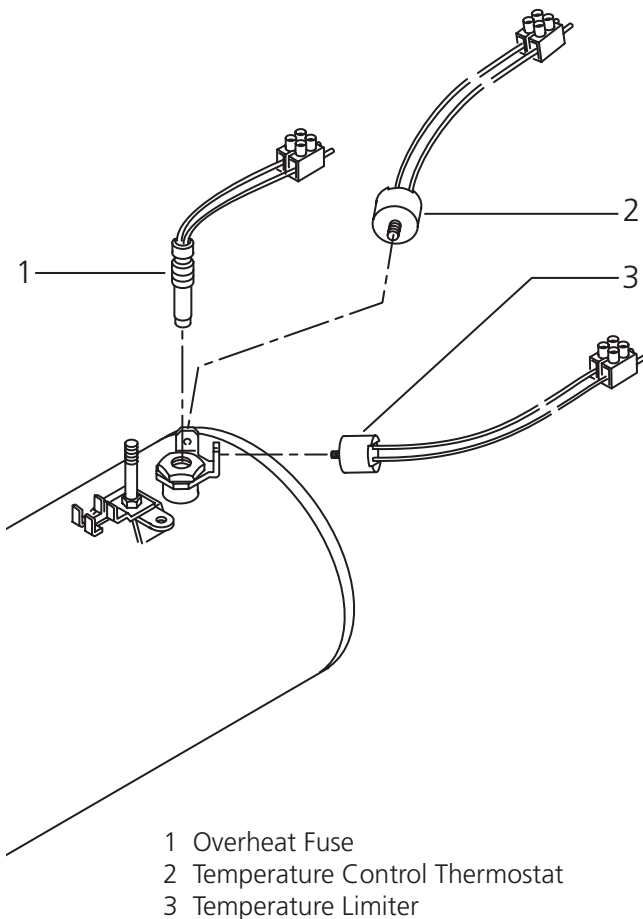

Figure 36: Temperature Control Elements
2. Turn counterclockwise to remove temperature limiter (item 3, Fig. 36).